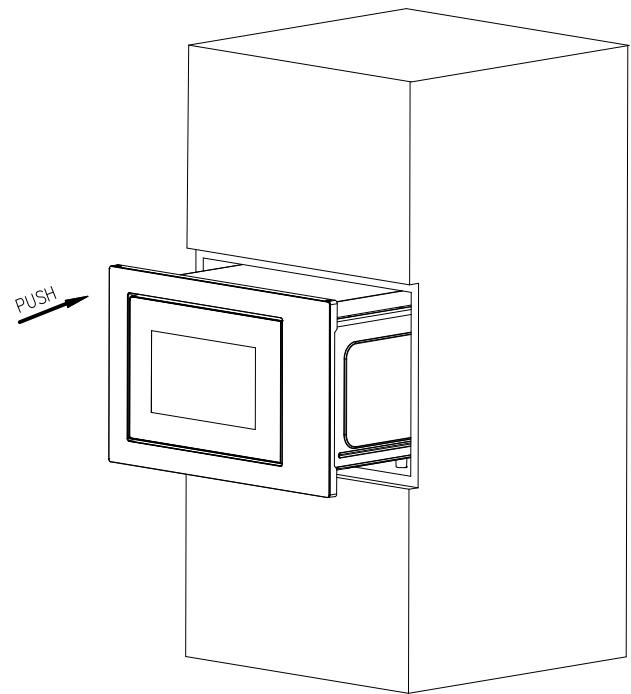

Fig.1
b) Put the microwave oven into built-in cabinet and push it forward to the end. (Fig.1)